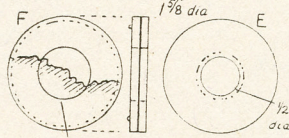

Fig. 3—Details of the eyepiece
For an eyepiece, cut a disc of $\frac{1}{8}$ in. wood to size (E), in Fig. 3. Bore out the central hole accurately and slightly bevel its edge outside. On the inside, glue a disc of cellophane, or clear thin plastic, just a trifle larger than the hole, then glue the eyepiece to the second tube (not that lettered (G)) at the outer end, the (G) end. This tube can now be glued in the holder. The rotating ring should be removed at this stage for fixing tube (G) to it.
An object glass should now be prepared, though perhaps the term 'glass' is rather a misnomer, as no glass is used. For this, cut two discs of the $\frac{1}{8}$ in. fretwood, the same diameter as (E), in Fig. 3, and in their centres bore out $\frac{3}{4}$ in. holes, as at (F). Cut a disc of cellophane a